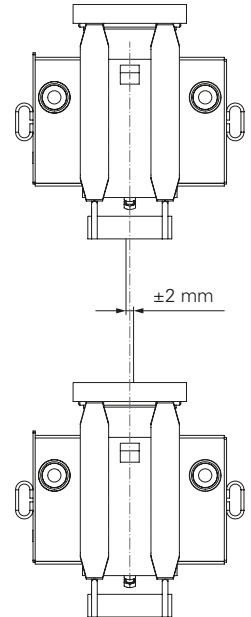

Fig. A3.31
- Climbing Shoe II:  $\pm 2$  mm (Fig. A3.31)